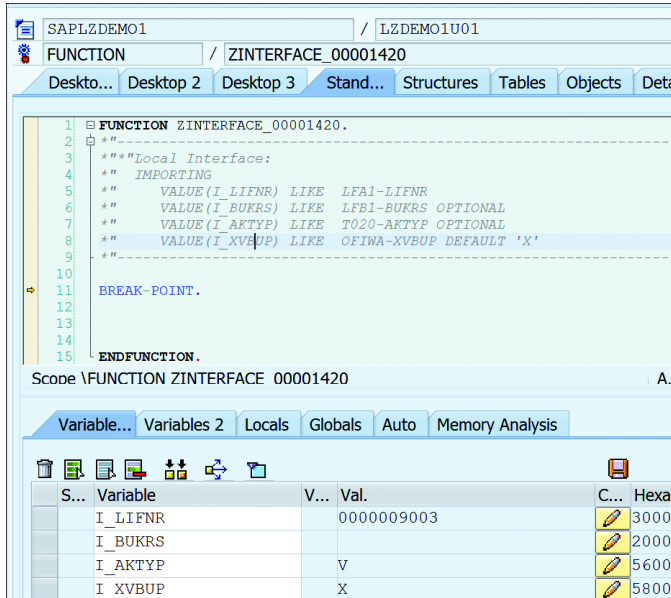

Figure 20.69 Function Module in Debug Mode
2. This should trigger the function module in debug mode because you hard-coded a breakpoint in the function module (see Figure 20.69). Also, the vendor number is passed to the function module.